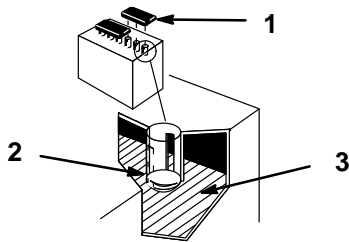

Figure 52
1. Open covers to see into the cells. The electrolyte must be up to the lower part of the tube (Fig. 52). Do not allow the electrolyte to get below the plates. (Fig. 52).
2. Lift off the filler caps (Fig. 52).
3. Slowly pour distilled water into each battery cell until the level is up to the lower part of the tube (Fig. 52).